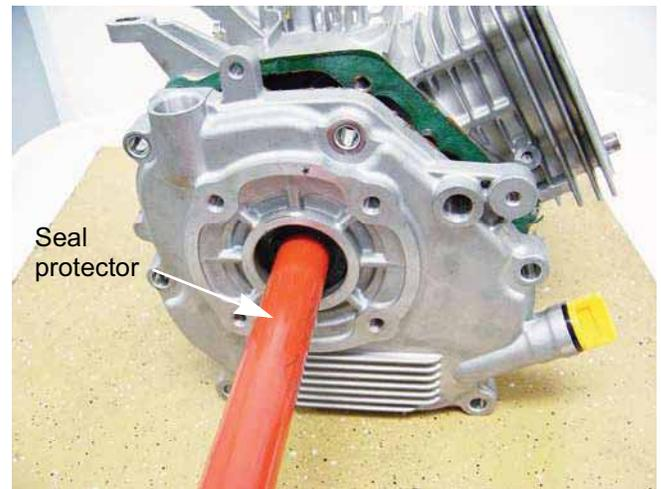

Figure 10.24
9. Using a seal protector, slide the crankcase cover on to the crank shaft. See Figure 10.24.